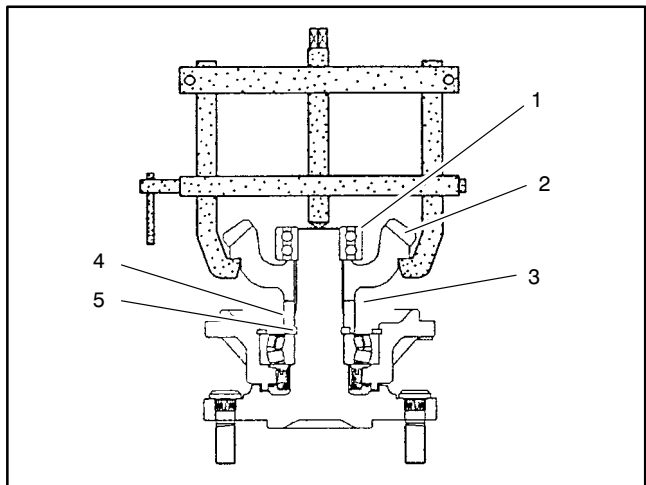

Figure 14
2. Use a bearing puller to remove the bearing and bevel gear as shown (Fig. 14).